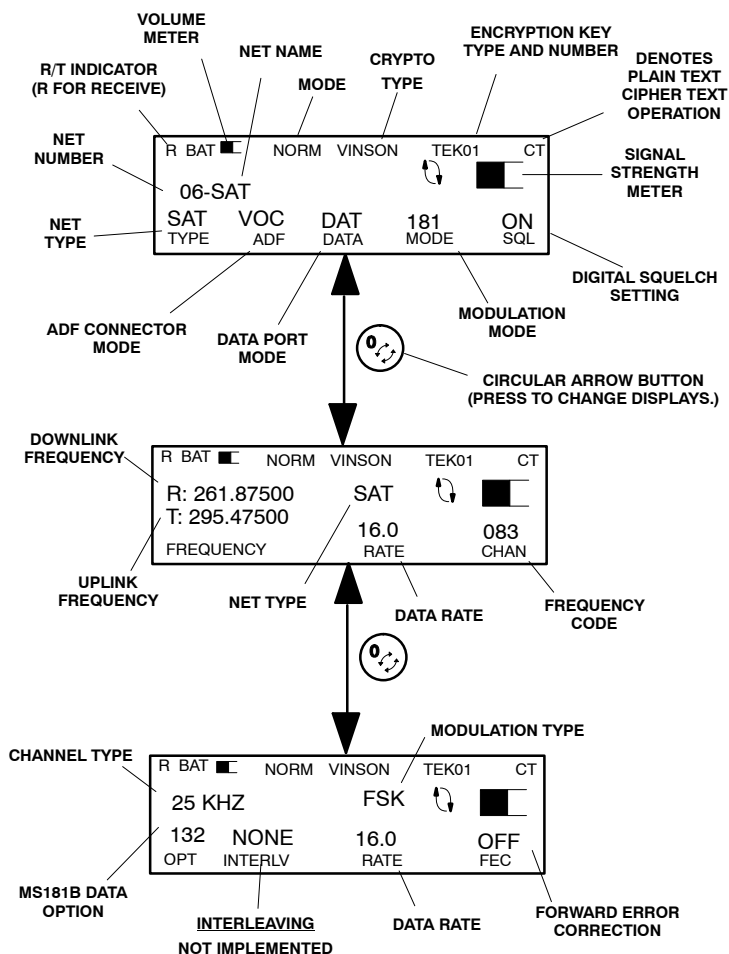

Figure 16. Dedicated UHF SATCOM Displays
- e. Begin radio operation. See Figure 16 for SATCOM operational displays.
- Press circular arrow key to view the data option page of the SATCOM net preset. See Figure 16 for SATCOM displays.